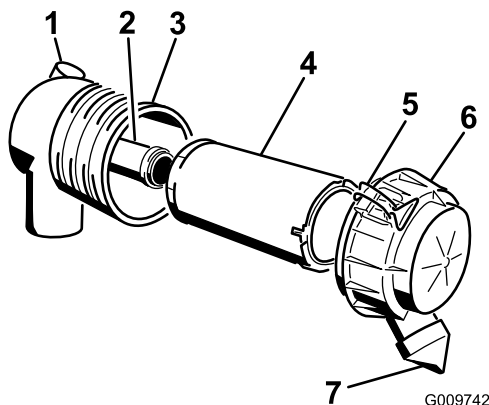

Figure 54
1. Gently slide the primary filter out of the air-cleaner body (Figure 54).
4. If you are replacing the safety filter, carefully slide the new filter into the filter body (Figure 54).
6. Install the air-cleaner cover with the side indicated as “UP” facing upward and secure the latches (Figure 54).